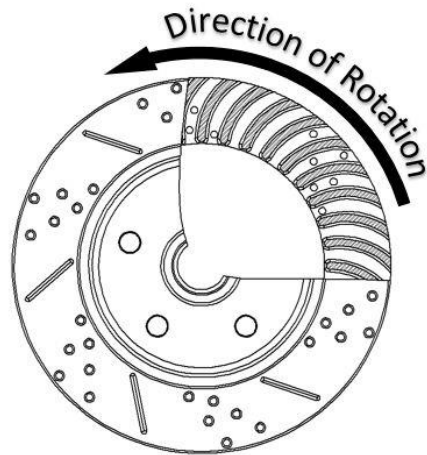

Figure 2 – Direction of Rotor Rotation
6. Place the correct LH or RH rotor onto the hub assembly. Use three lug nuts when installing to hold the rotor tight against the hub which will allow for accurate shimming of the calipers which will be done in a later step. When installing rotors, be sure to follow the direction of rotation indicated on the rotor hat area with either an arrow or with an "L" for driver side or an "R" for passenger side. Figure 2 below shows the direction for reference.